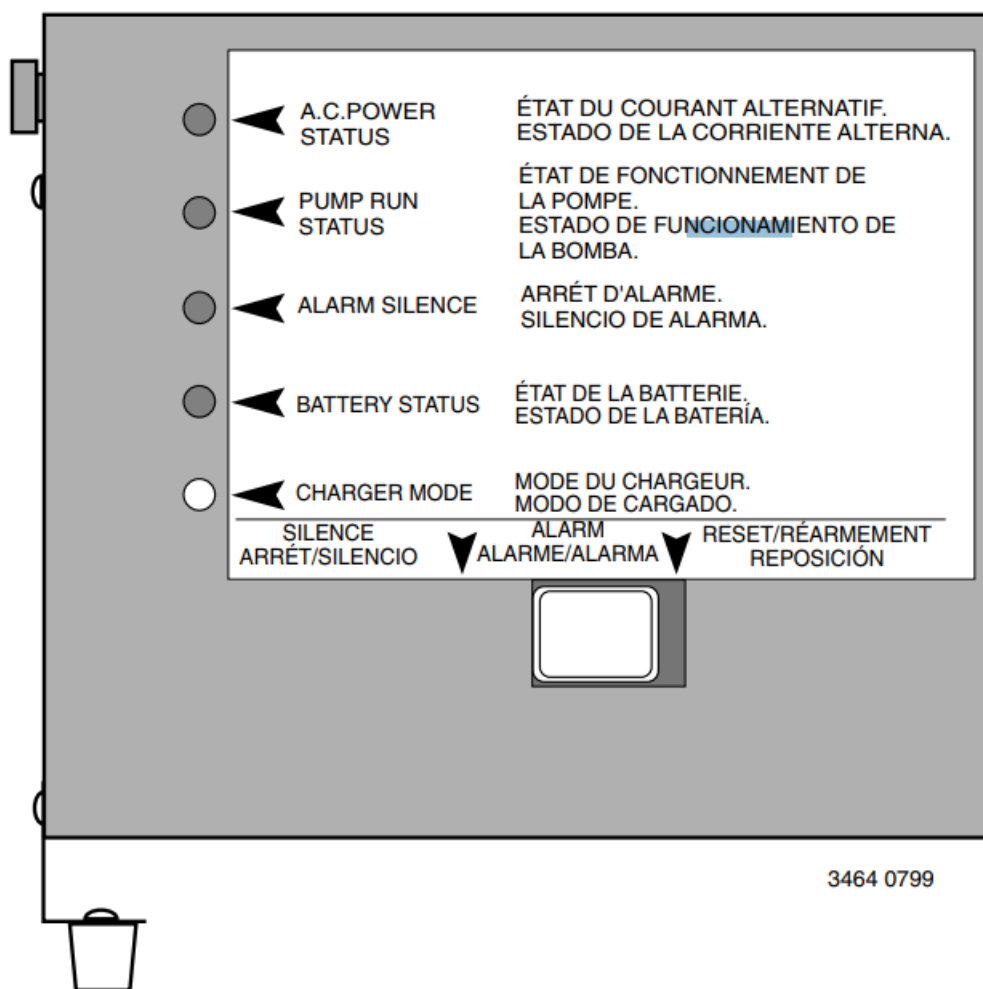

Figure 12 – FG200-A1 LED Panel
3. With the charger properly connected and plugged in, the panel on the front of the charger will show one or more of the following conditions (See Figure 12).